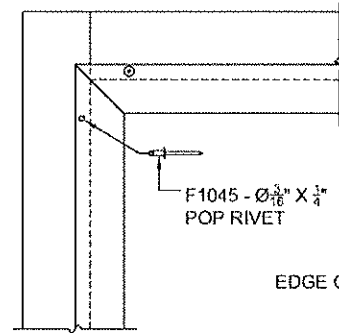
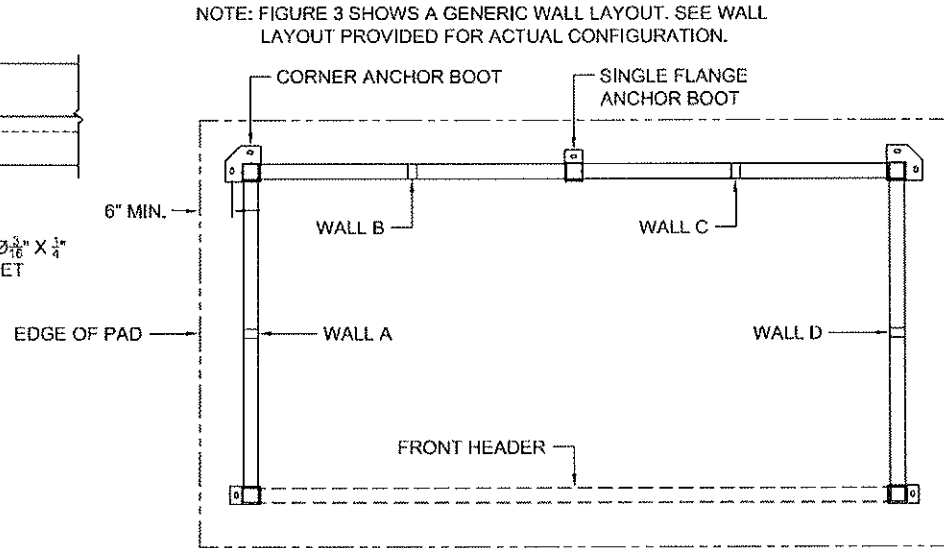

FIGURE 2
FIGURE 3
NOTE: FIGURE 3 SHOWS A GENERIC WALL LAYOUT. SEE WALL LAYOUT PROVIDED FOR ACTUAL CONFIGURATION.
- 1) START WITH THE LEFT SIDE WALL AND LEFT BACK WALL. SET COLUMNS IN ANCHOR BOOTS. (ANCHOR BOOTS CAN BE ALIGNED UNDER SILLS OR TO OUTSIDE OF SHELTER AS SHOWN IN FIGURE 3) SLIDE HEADER AND SILL TUBES ONTO CORRESPONDING TUBE CLIPS UNTIL FULLY ENGAGED. USING THE DRIVE RIVET TOOL, ATTACH TO CLIPS WITH F1048 - Ø½" X ¾" FLAT HEAD DRIVE RIVETS.
- 2) REPEAT STEP 1 FOR REMAINING WALL SECTIONS, FRONT HEADER AND CROSS BRACE(S) CONNECTIONS.
- 3) WHERE WALL SECTIONS WERE CONNECTED, USE #11 (Ø.191") DRILL BIT TO TRANSFER HOLES IN GLAZING SASH TO COLUMNS. SECURE SASH TO COLUMN WITH F1045 - Ø¾" X ¼" POP RIVET (FIGURE 2).